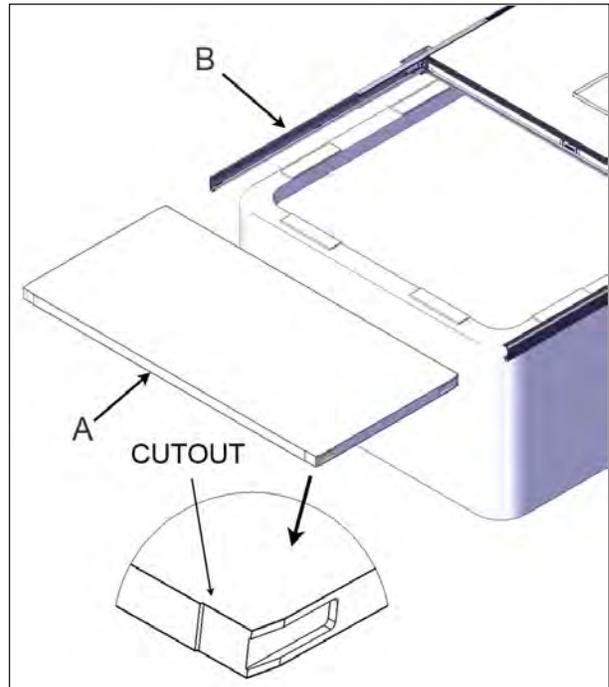

FIGURE 50: EXTRA PANEL INSTALLATION FOR 17' AND 20' LONG SPA MODELS
- Slide in one of the remaining extra panels into the C-channels see Figure 50.
Make sure the panel side with the cut out shown in Figure 50 is pointing outward.